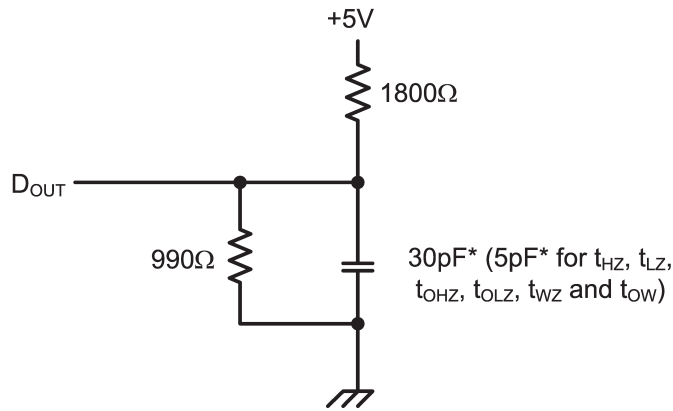

Figure 1. Output Load
4. Transition is measured ± 200 mV from steady state voltage prior to change, with loading as specified in Figure 1. This parameter is sampled and not 100% tested.
9. Transition is measured ± 200 mV from steady state voltage prior to change, with loading as specified in Figure 1. This parameter is sampled and not 100% tested.
Output Load	See Figures 1 and 2